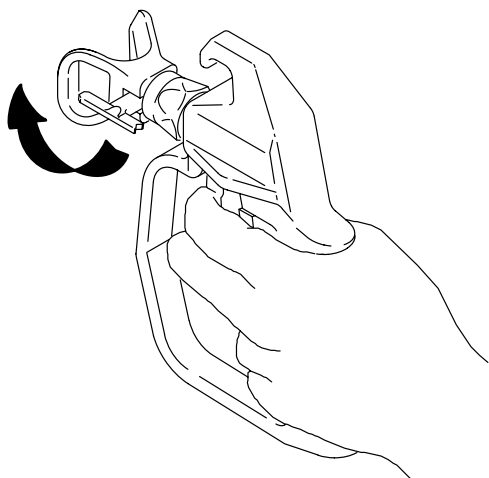

Fig. 6
13. *If you have a Reverse-A-Clean IV tip guard on your gun and the tip clogs while spraying, release the gun trigger, lock the trigger safety lever, and rotate the spray tip handle 180°. See Fig. 6.*